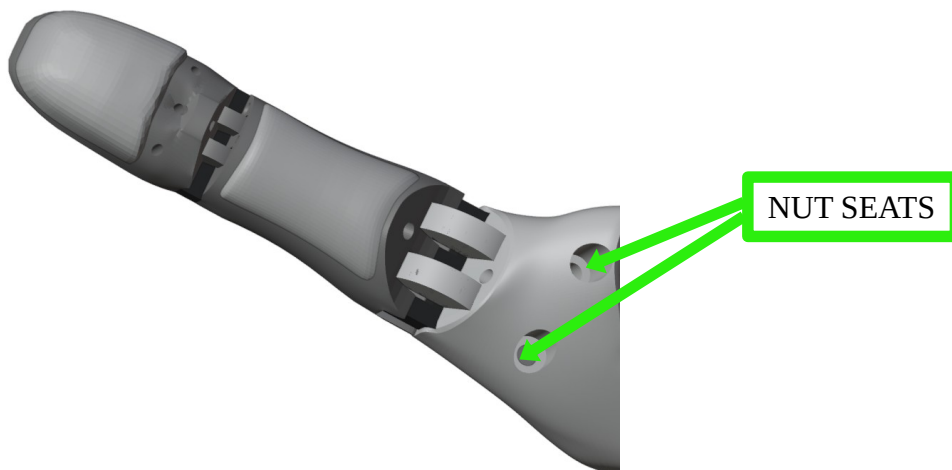

Figure 5.18: Thumb fastening with nuts
3. Secure with two M3 nuts placed on the opposite side (figure 5.18)